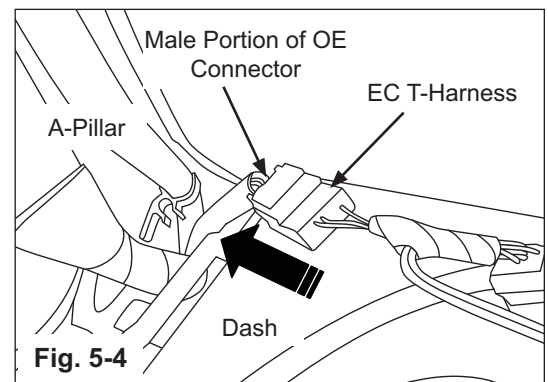

Fig. 5-4
- d) Connect female portion of T-harness to male portion of OE connector. (Fig. 5-4)
- g) Wrap two (2) pieces of foam tape around T-harness and male portion of OE connector previously connected in Fig. 5-4, to existing OE harness as shown. **(Fig. 5-7)**